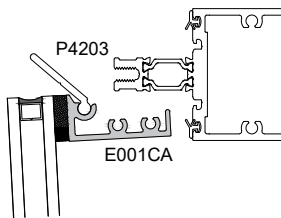
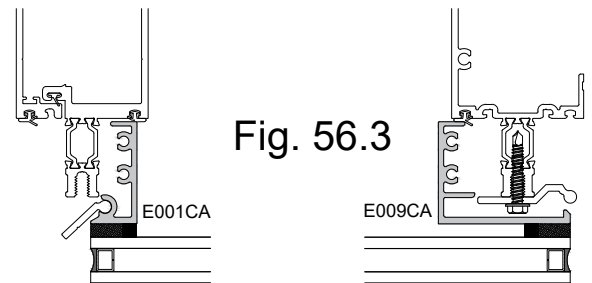

Fig. 56.1
Fig. 56.3
- STEP 2: Set sill of assembled cassette frame on anchor clips P4223 as shown at Fig. 56.1. Note location of jamb frame position shown at Fig. 56.3